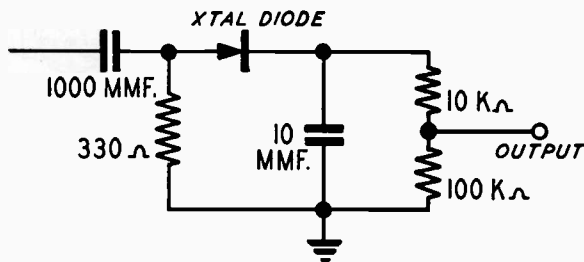

Fig. 5—Crystal Diode Detector
**40 Mc I-F ALIGNMENT**—Connect sweeper with very short leads through a 1 K mmf disc ceramic capacitor to mixer grid. (Lead of a 3.9 K resistor which is accessible through a hole located between the R-F Amplifier & Mixer tubes on the tuner. With short leads connect crystal diode detector (Fig. 5) to plate of 1st I-F tube. Connect -1.5V to A.G.C. line (Junction of C-220 & R-205). Connect oscilloscope to detector output. Adjust sweep output to give adequate deflection.